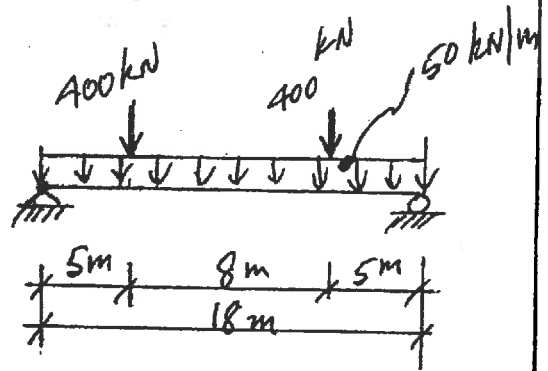

FIGURE 2
2. Figure 2 shows a prestressed concrete girder. Design the girder, allowing no tension in the cross-section. Show the profile of the prestressing steel.